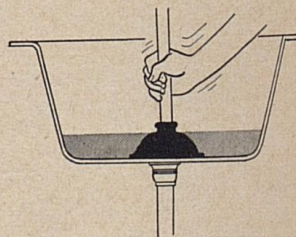

Fig. 65
- Fig. 65 shows a suction plunger used to clean sluggish drains.